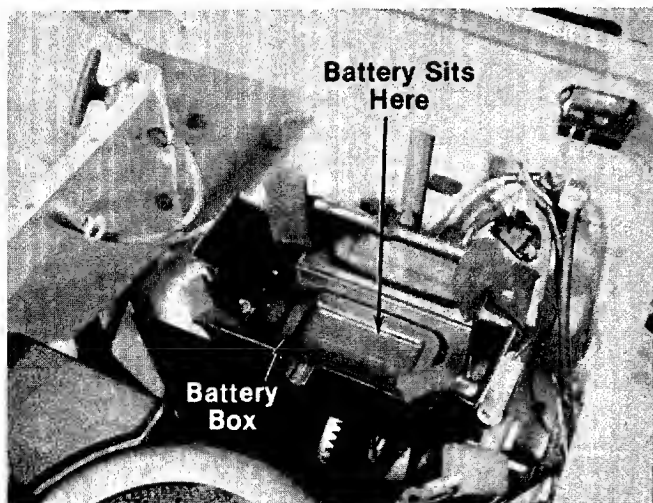

FIGURE 9.
10. Open the hood of the lawn tractor. Figure 9 shows the battery box in which the battery will be mounted.